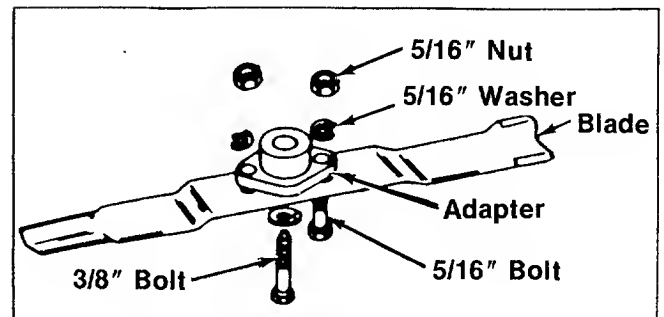

FIGURE 27. BLADE REMOVAL
1. Remove the large bolt and lock washer which holds the blade and adapter to the blade spindle. See figure 27.
3. If the blade or blade adapter needs replacing, remove the two small bolts, lock washers and nuts which hold the blade to the adapter. See figure 27.